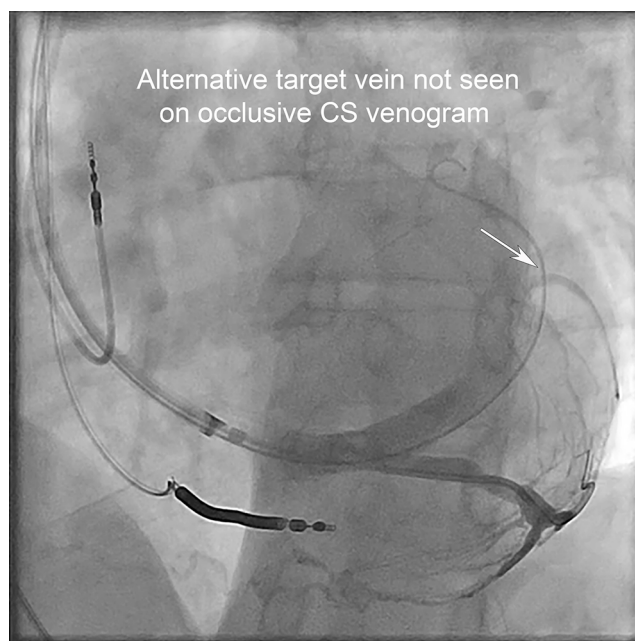

Figure 10. Selective venogram using the Vein Selector reveals a CS target vein not seen on occlusive venography. (watch video 7 for details).
- 1. Problem:** high outputs and phrenic pacing throughout the only viable target vein identified on CS venogram (figure 10).